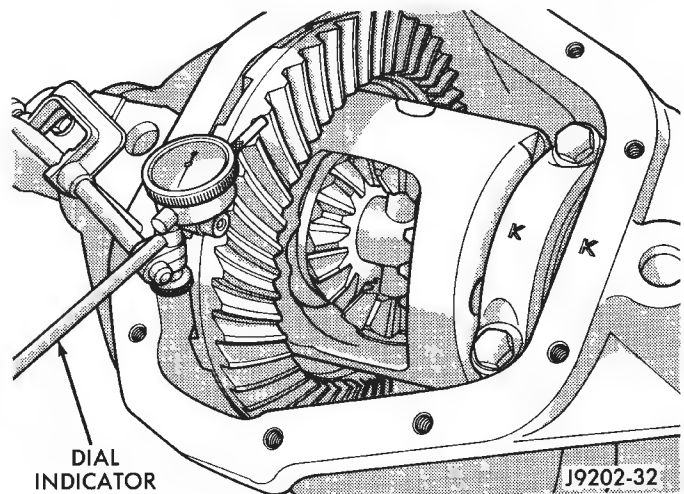

Fig. 61 Ring Gear Backlash Measurement
(1) Rotate assembly several revolutions to seat bearings. Measure backlash at three equally spaced locations around the perimeter of the ring gear with a dial indicator (Fig. 61).